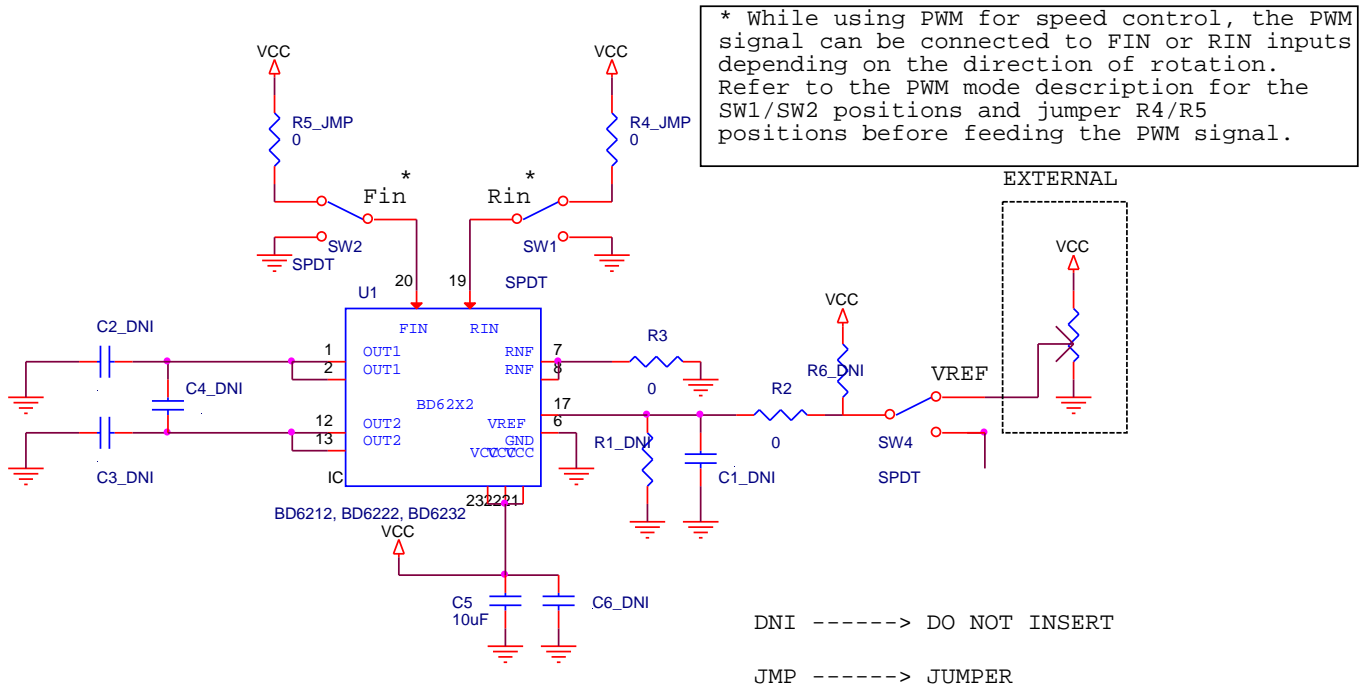

Figure 1
- b) The speed of the motor can be controlled by varying the duty cycle of the input PWM signal. OUT1 pin is high and OUT2 pin toggles between low and high impedance states. The motor which is connected between OUT1 and OUT2 rotates in the forward (clockwise) direction. A path for the recovery current from the motor is established by the 10µF bypass capacitor connected between VCC and GND as shown in Figure 1.
- b) The speed of the motor can be controlled by varying the duty cycle of the input PWM signal. OUT2 pin is high and OUT1 pin toggles between low and high impedance states. The motor which is connected between OUT1 and OUT2 rotates in the reverse (anti-clockwise) direction. A path for the recovery current from the motor is established by the 10µF bypass capacitor connected between VCC and GND as shown in Figure 1.
- d) The switching on duty is limited by the range of VREF pin voltage. The PWM output carrier frequency in this mode is 25kHz (nominal). A path for the recovery current from the motor is established by the 10µF bypass capacitor connected between VCC and ground as shown in Figure 1.